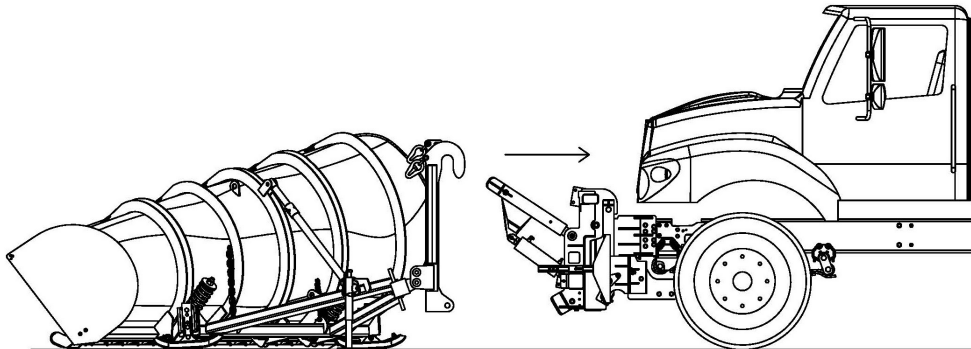

Figure 3: Back away from Plow
5. Slowly back the truck away, while ensuring that the couplers are fully disengaged. (See Figure 3)